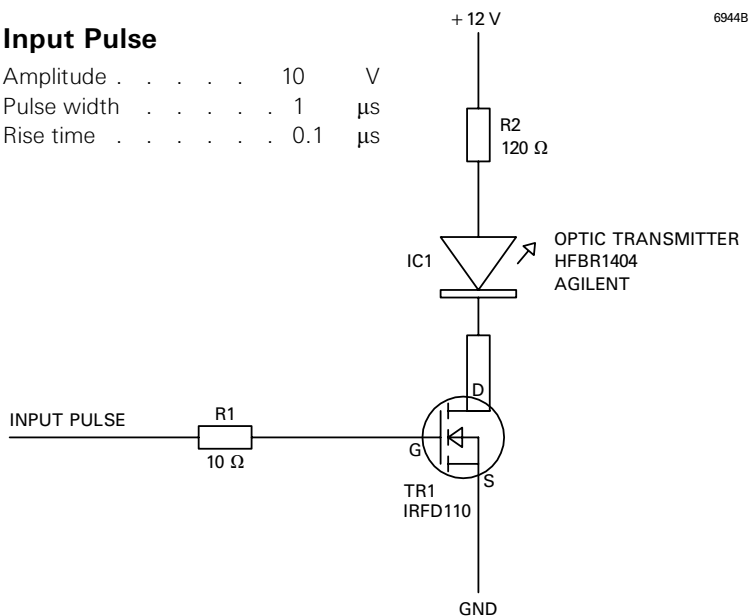

Fig. 4. Suitable drive circuit for optic transmitter
optical	see Fig. 4 and note 6
- The optical input pulse is via the 9 mm FSMA style connector. To achieve the best performance, the rise time of the input pulse should be as short as possible; a suitable driver is shown in Fig. 4.